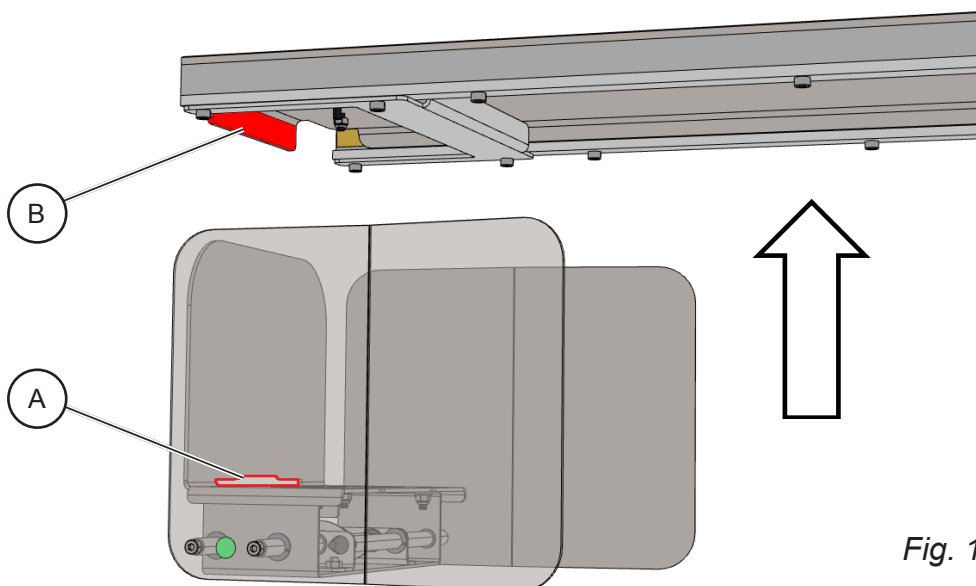

Fig. 1
- 1 Align the hole [A] on the long sheet endstop with the lip of table [B] (Fig 1).